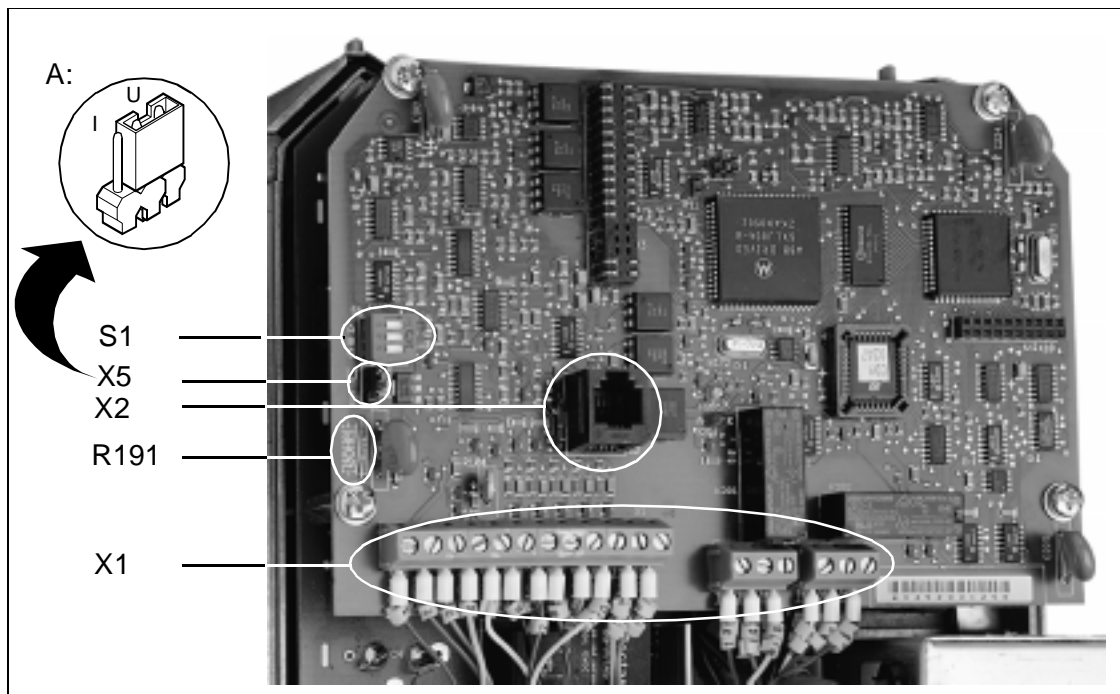

Figure 4-1 Control Card
Figure 4-1 shows the location of the control terminal block, X1 and the configuration switches and jumpers on the ACS 300 control card.
- Notes for Figure 4-1**
¹⁾ Refer to Figure 4-1 "Control Card" on page 22 for voltage/current reference selection.
The analog input, AI, is used to set the speed reference using an external potentiometer or analog signal. By setting jumper X5, the input can be configured to accept either a voltage signal of 0(2) to 10 V or a current signal of 0(4) to 20 mA. Refer to Figure 4-1. The analog input can scaled and configured for joystick operation using the REF OFFSET parameter as described on page 55. The AI FAULT parameter described on page 64 is used to enable and disable signal loss protection. When the PI controller is activated, the analog input is used only as the actual value (process feedback) input. Refer to the PI GAIN parameter on page 68.